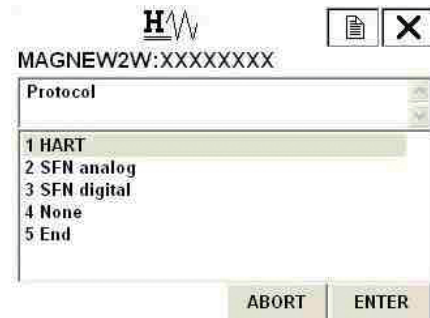

Fig. 7-17.
2. Once the display as shown in Fig. 7-17. appears, move the arrow key up or down to select communication method. After making a selection, press F4 (ENTER). If F3 (ABORT) is pressed here, the selection will be canceled and the display will return to the COMM output menu.